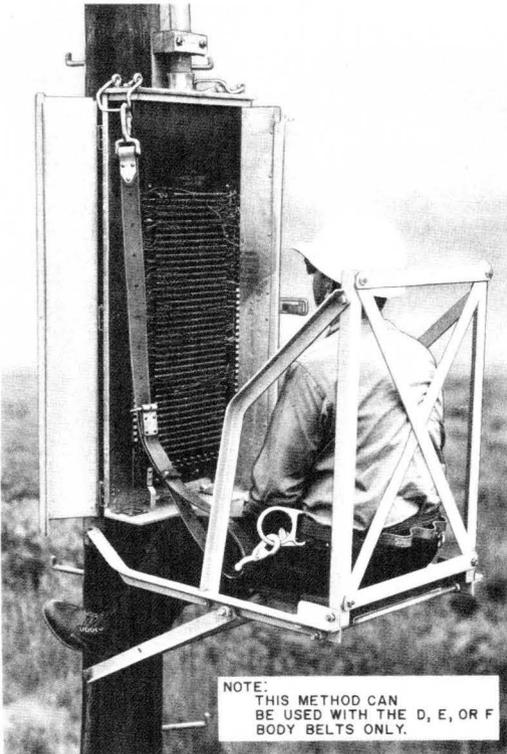

Fig. 10—Method of Using D, E, or F Body Belt With Safety Strap on B-Type Cross-Connecting Terminal
5.08 Employees shall secure themselves to the handle of pole-mounted terminals, such as B, 101, and 29-type cabinets, prior to stepping from the pole to a pole seat or terminal balcony. Likewise, when stepping from a pole seat or terminal balcony to the pole, the safety strap shall not be removed from the handle until the employee has stepped onto the pole. Figure 10 shows the safety strap secured to one Dee ring, which is possible when using a D, E, or F Body Belt. All other belts must have the snap hook of the safety strap secured to a Dee ring, across the front of the body and through the other Dee ring, and then secured to the terminal handle.